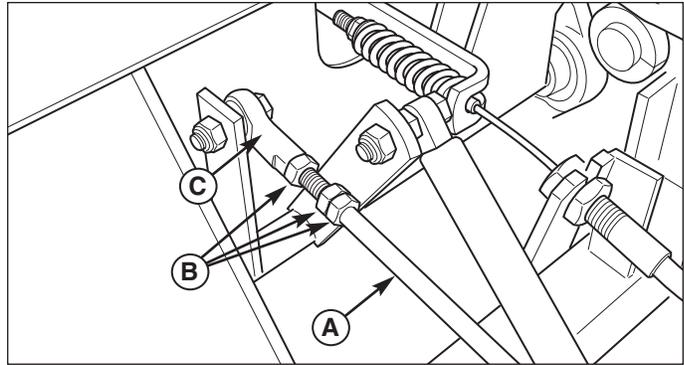

Figure 38. Neutral Adjustment (RH side shown)
2. There are three nuts (B, Figure 38) on the linkage rod. The first two are to be used together to turn the rod and the third (towards the front of the machine) is used to lock the rod in place. Loosen the jam nut that locks against the ball joint (C, Figure 38) and turn the linkage rod (A) to adjust. If the machine creeps forward, turn the rod **CLOCKWISE** (while standing at the rear of the machine, facing forward), if the machine creeps backward, turn the rod **COUNTER-CLOCKWISE**.
3. Lock the jam nut (B) against the ball joint when neutral is achieved.